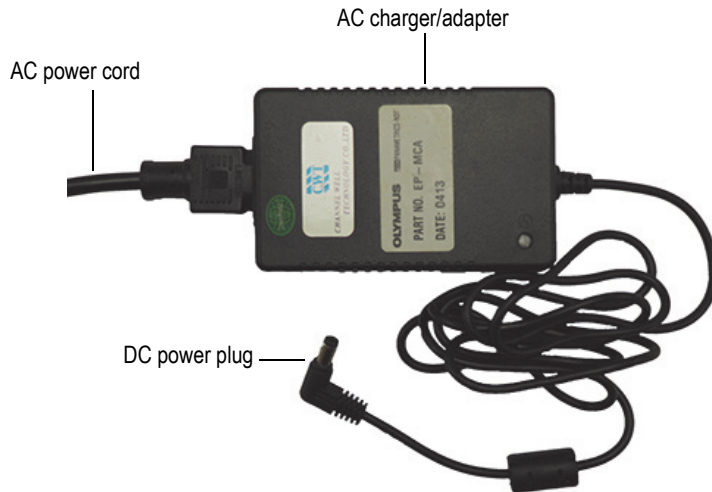

Figure 3-6 AC charger/adaptor
2. Insert the AC power cord into the AC charger/adapter (Figure 3-6 on page 43).